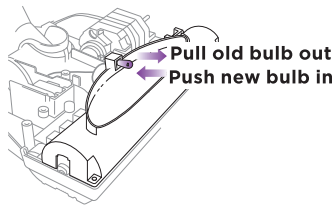

Fig. 29
- 1 Hold the light bulb securely with your fingers and pull it out. Hold the new bulb and push it in to replace it. (Fig. 29)